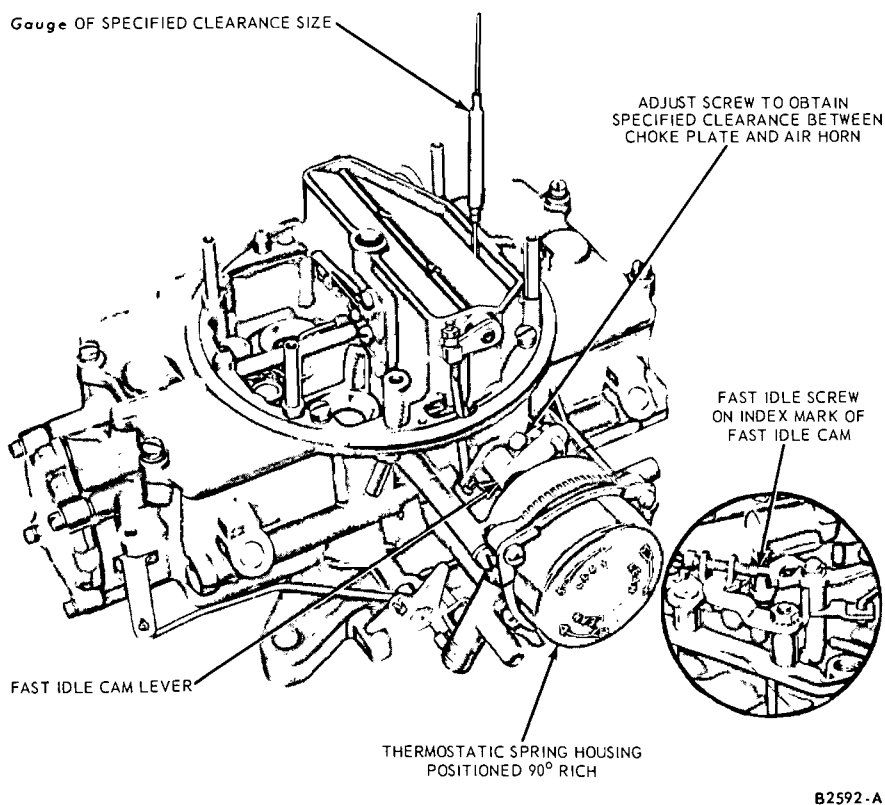

FIG. 19—Fast Idle Cam Linkage Adjustment (Typical)—Autolite Model 2100 2-V and 4100 4-V
7. On the Autolite Models 2100 2-V and 4100 4-V carburetors, check the clearance between the front of the choke plate and the air horn wall. Turn the fast idle cam lever adjusting screw (Fig. 19) inward to increase the clearance and outward to decrease the clearance. Make sure the fast idle screw stays at the index mark on the fast idle cam during the adjustment.